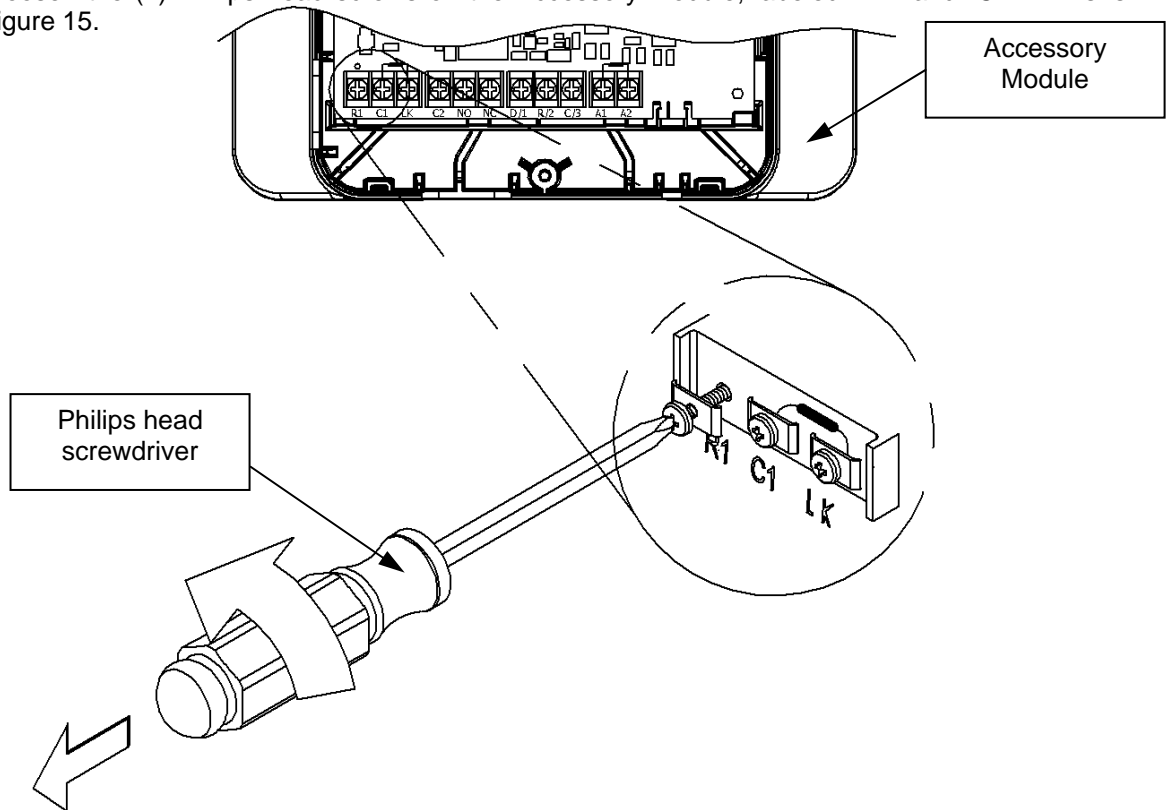

Figure 15
Step 15: Loosen the (2) Philips head screws on the Accessory Module, labeled "R1" and "C1." This is shown in Figure 15.